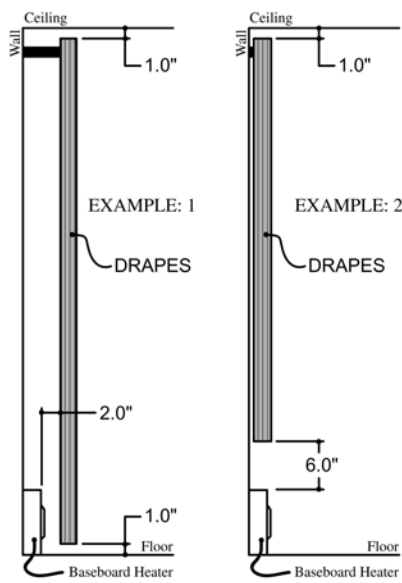

FIGURE 1
1. Allow minimum clearance of 1" from drapes to ceiling and to top of floor covering to permit air circulation (Example 1, Figure 1).
2. Hang full length drapes to provide a minimum of 2" air space between heater front and nearest drape fold as shown in Example 1, Figure 1.
3. Hang short drapes to provide minimum of 6" clearance between bottom of drapes and top of heater, preferably more (Example 2, Figure 1).